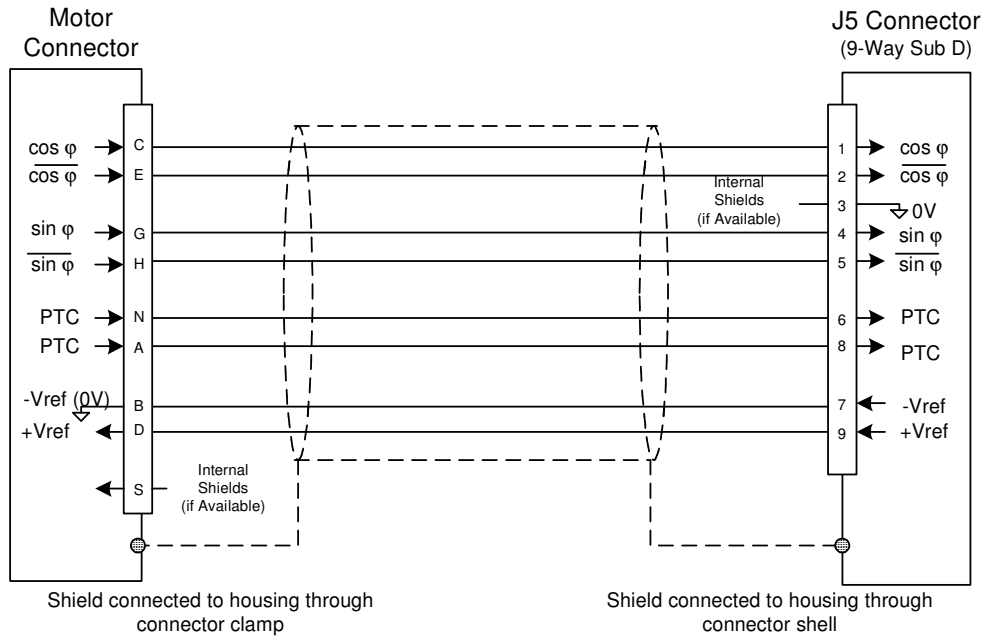

Fig 1.12 - RESOLVER CONNECTIONS (FAST/FASK motors)
- The resolver signals should be connected to J5 connector. Fig 1.12 shows the resolver wiring lay-out with differential inputs.